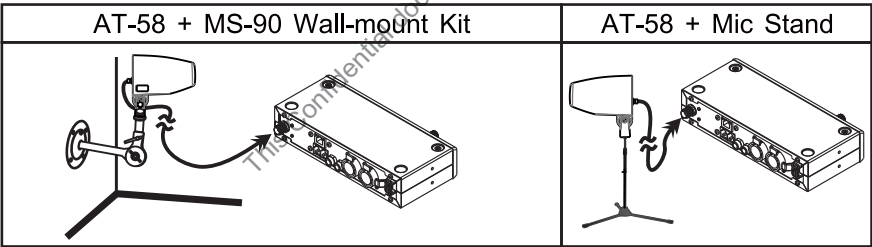

Fig. 4
- (C) External Antenna Installation: Install optional MIPRO AT-58 antennas & MS-90 wall-mount kit or microphone stand with specific coaxial cable for improved performance. Ensure antennas are installed and positioned higher than the crowds and away from obstructions, as Fig. 4: